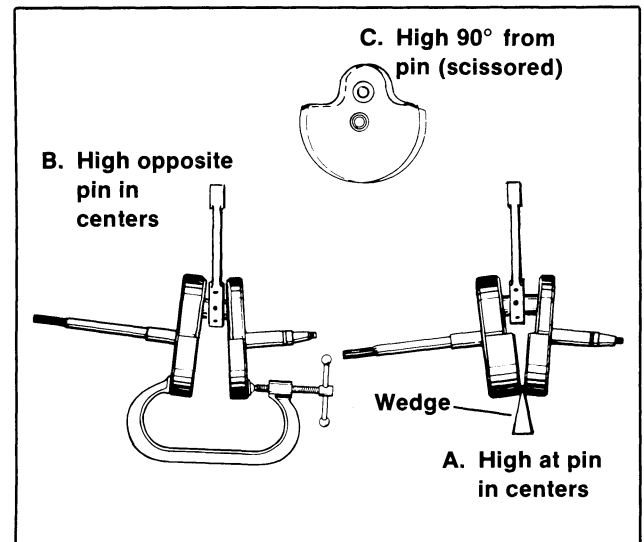

Figure 5-30. Correcting Crankshaft Misalignment
Shafts must run true within .002 inches on fan side and .004 inches on clutch side. See Figure 5-30. and correct flywheel alignment as follows:
6. See Figure 5-30. Install the original shims (if any) and a new outer bearing into the crankcase right half.